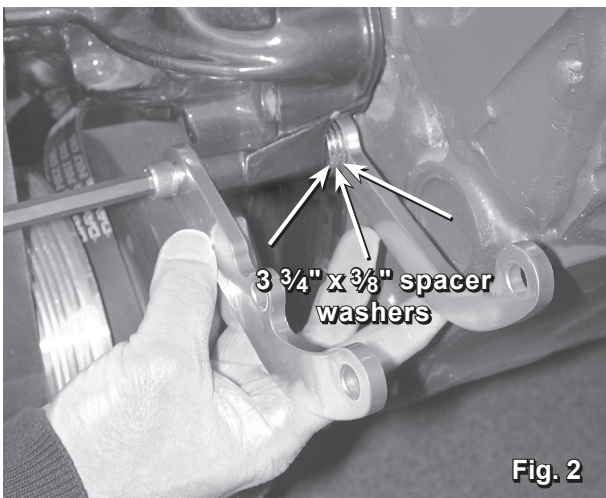

Fig. 2
2. Mount the lower support brackets that came with your kit to the water pump using the  $\frac{3}{8}$ -16 x  $3\frac{3}{4}$ " socket head bolt. Place three (3)  $\frac{3}{8}$  x  $\frac{3}{4}$ " diameter spacer washers between the water pump and the rear support bracket and start threads (fig. 2) (do not tighten at this time). Due to production variances in OEM and aftermarket water pumps the number of spacer washers required may change (read on).